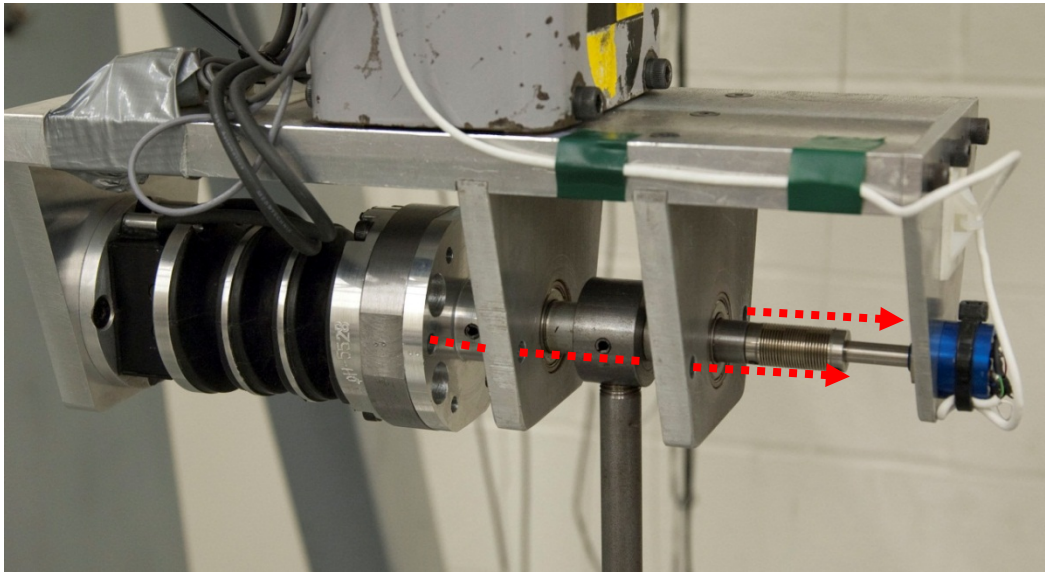

Figure 55. Uninstall zero pins prior to test
- Once the bias is removed from the potentiometer and load cell data channels, be certain to remove the zero pins to prevent damage (Figure 55)!